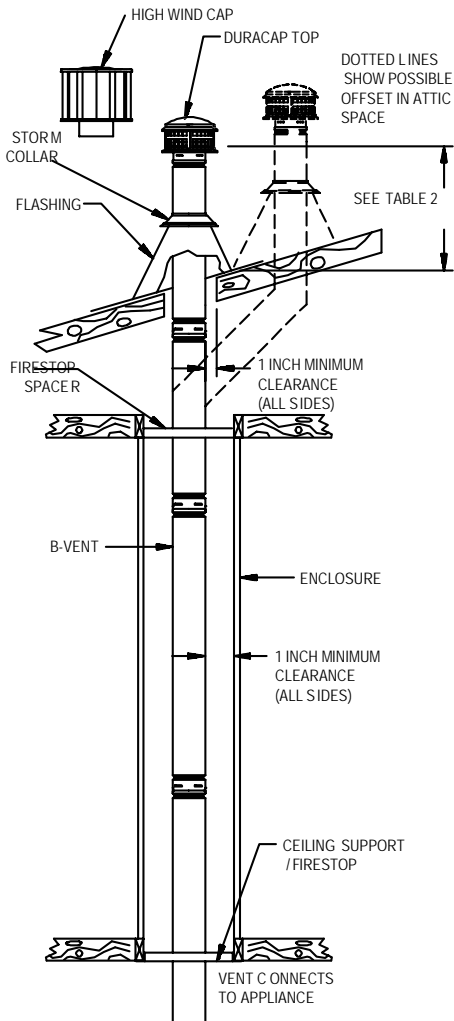
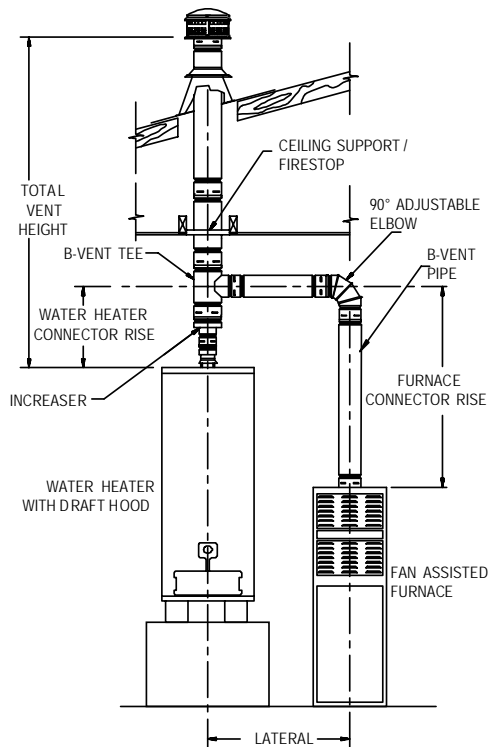
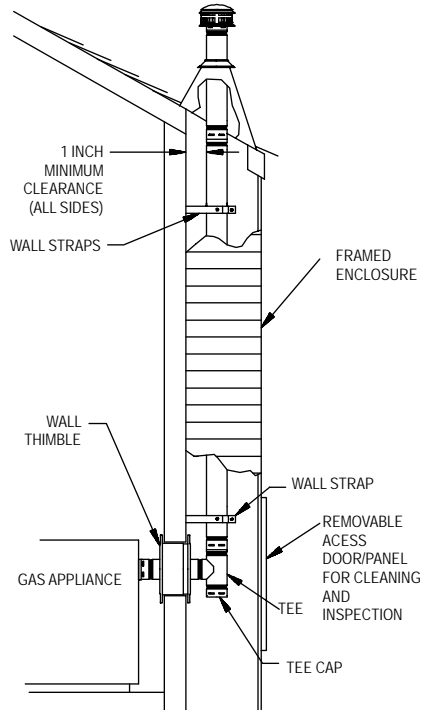

Figure 1
Figure 2
Figure 11
3. Figures 1, 2, & 3 show examples of some typical residential installations.
8. Tees and Wyes. Tees and Wyes are used to combine connectors from 2 or more appliances into a common vent as shown in **Figures 2 and 3**. A Tee should be used in a through-the-wall application, (**Figure 11**), as they have a removable Tee Cap (available as a separate item) attached to the bottom. This Tee Cap may be removed in order to inspect the system, or to clean out debris or collected condensate from the common vent. Wall Straps should be used to support the vertical pipe as needed to provide a secure
9. Enclosures. Any portion of the vent which passes through an occupied area must be enclosed, to prevent accidental damage to the system, as well as burns. **Figure 1** shows a system which passes through an occupied second floor. Simpson Dura-Vent does not recommend installation of B-Vent Pipe on the outside wall of a building, particularly in cold climates. If it is necessary to do this, enclose the outside portion of the system in a chase, as shown in **Figure 11**. Consult the Local Authority prior to construction. Note that the enclosure requires an access door for inspection and maintenance purposes.